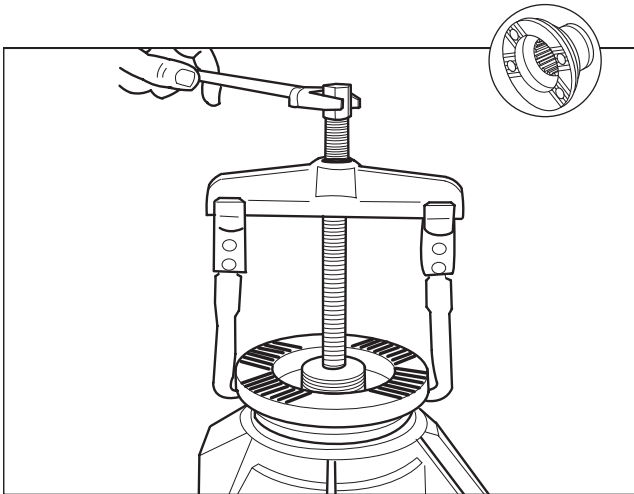

Fig. 2.17
17. Remove flange. This may require the use of a standard bearing puller tool. (Fig. 2.17)